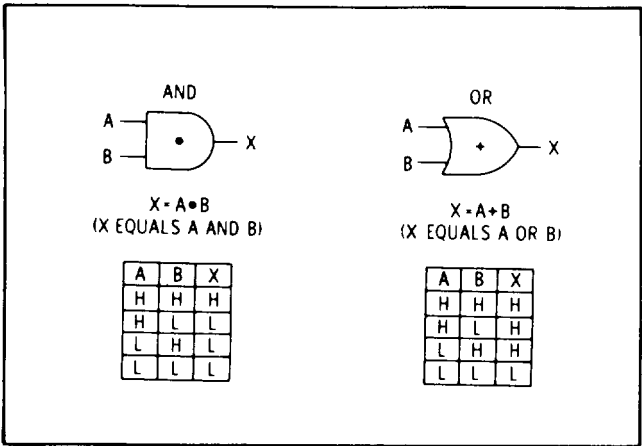

Figure 8-5. Basic AND and OR Gates
8-34. Two of the basic "building blocks" of logic circuits are the AND and OR gates. The symbols and truth tables for basic AND and OR gates are shown in Figure 8-5.
**8-35. Basic AND Gate (Positive logic).** The basic AND gate is a circuit which produces an output "1" when, and only when, a "1" is applied to all inputs. As shown in Figure 8-5, terminal X will be high only when terminals A and B are both high. The dot (e) shown in the AND gate is the logic term for AND. The term for a simple two input AND gate is  $X = A \cdot B$  (X equals A and B). AND gates may be designed to have as many inputs as required to fill a specific requirement.
**8-26. Basic OR Gate (Positive Logic).** The basic OR gate is a circuit which produces a "1" output when any one, or all of the inputs are in a "1" state. As shown in Figure 8-5, terminal X will be high when either terminal A or terminal B, or both are high. The + shown in the OR gate symbol is the logic term for OR. The term for a simple two input OR gate is  $X = A + B$  (X equals A or B). OR gates may be designed to have as many inputs as required for specific needs.